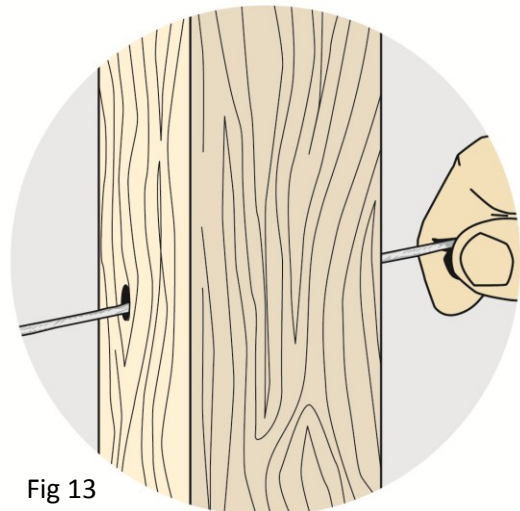

Fig 13
- b) Lace cable through intermediate posts (Fig.13).